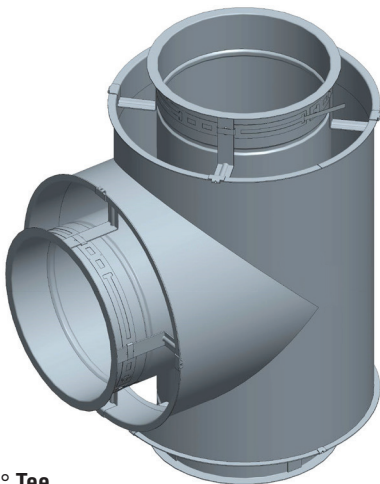

Figure 30 - 90° Tee
12. Install the insulation over the inner wall (DIS1, DIS2, DIS4, DIS3Z). See **Figure 30**.
The 90° Tee is generally used to connect horizontal connectors into a vertical section as well as a drain or inspection fittings. See **Figure 30** for a 90° Tee.